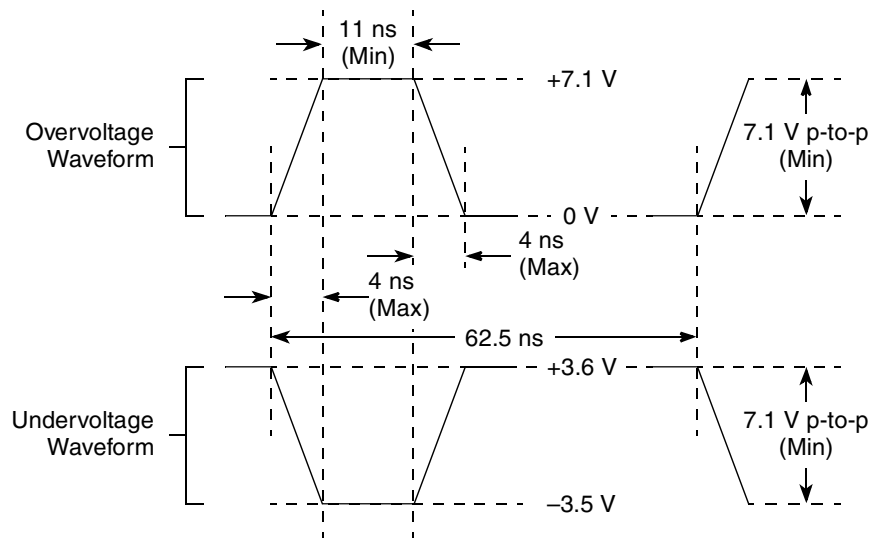

Figure 3. Maximum AC Waveforms on PCI interface for 3.3-V Signaling
- OV_{IN} on the PCI interface may overshoot/undershoot according to the PCI Electrical Specification for 3.3-V operation, as shown in Figure 3.
Figure 3 shows the undershoot and overshoot voltage of the PCI interface of the device for the 3.3-V signals, respectively.